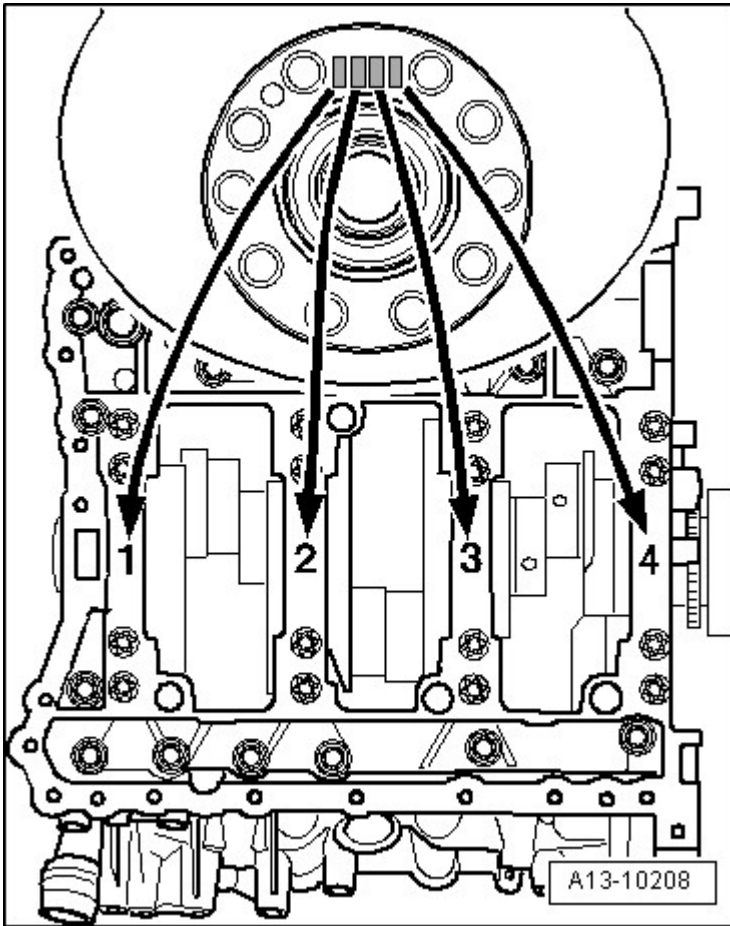

Fig. 7: Identifying Allocation Of Crankshaft Bearing Shells For Guide Frame
- Insert new bearing shells for guide frame with proper color marking, refer to **Fig. 7**